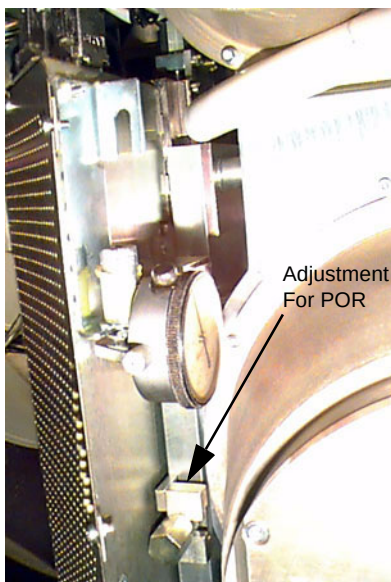

Figure 9-12 Dial Indicator Attached to Collimator/Tube Assembly
- If the tube is out of specification, perform steps 1 and 2 (page 207), and move the tube. See Figure 9-12 for more details.
Note: Mount the dial indicator onto the collimator/tube assembly as shown Figure 9-12. Make sure you zero the dial indicator when it's securely in place.